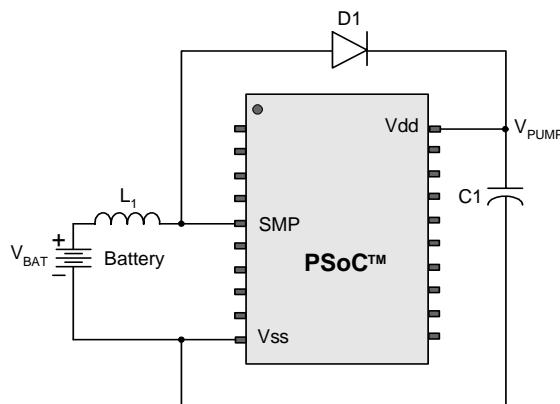

Figure 3-2. Basic Switch Mode Pump Circuit
a. $L_1 = 2\ \mu\text{H}$ inductor, $C_1 = 10\ \mu\text{F}$ capacitor, D_1 = Schottky diode. See Figure 3-2.